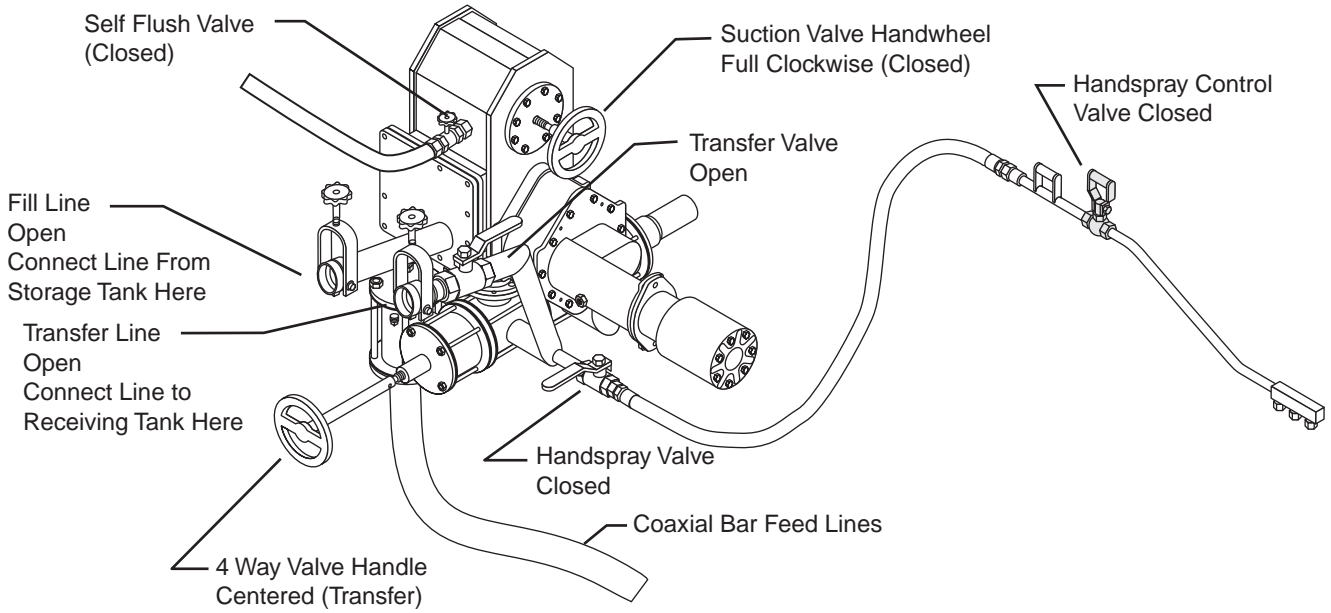

Figure 12 Valve Positions for Transfer Operation
1. Set all of the valve positions (see Figure 12).